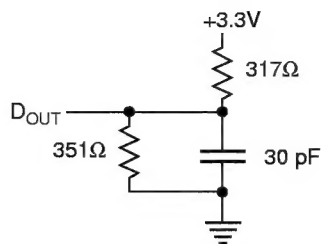

Figure 1. Output Load
Output load	See Figures 1 and 2
6. The following parameters are measured using the load shown in Figures 1 and 2.